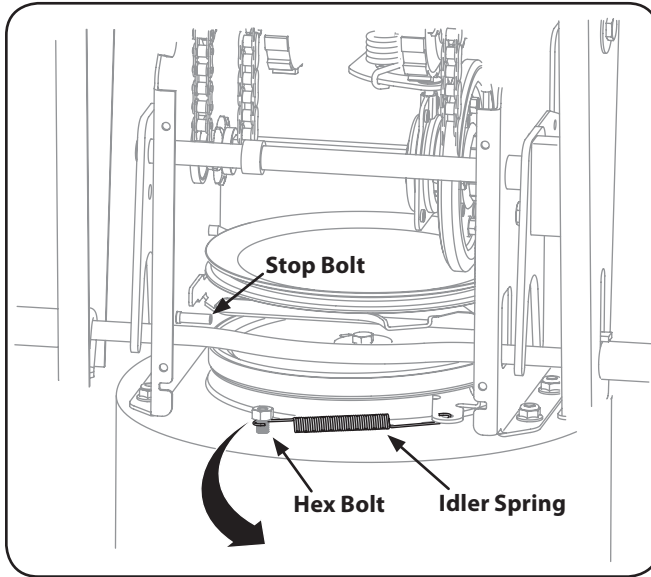

Figure 7-4
6. Unhook the idler spring from the hex bolt on the auger housing. See Figure 7-4.
6. Back out the stop bolt until the support bracket rests on the auger pulley. See Figure 7-4.
9. Reinstall the stop bolt, see Figure 7-4.